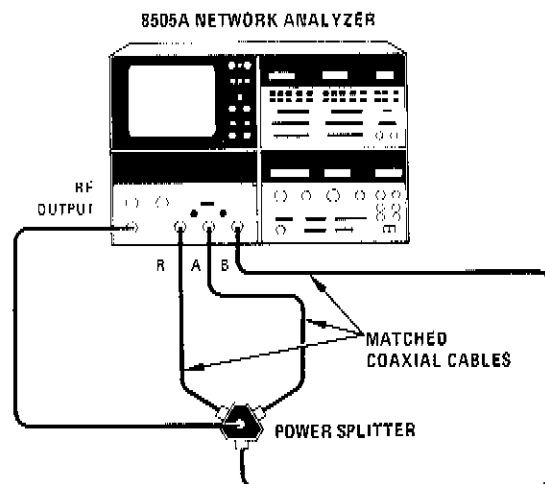

Figure A4-6. Marker Accuracy Test Setup
- a. Connect equipment as shown in Figure A4-6.